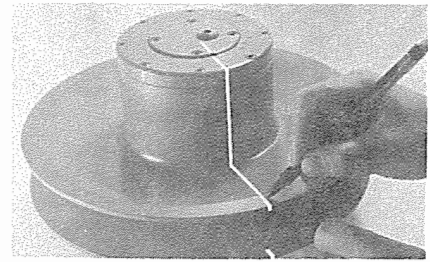

Figure 21
3. Use a marking pen or quick-drying enamel to reference all parts of the sheave as shown in Figure 21. This is important, as it allows all parts to be reassembled in their original positions in order to maintain correct balance.